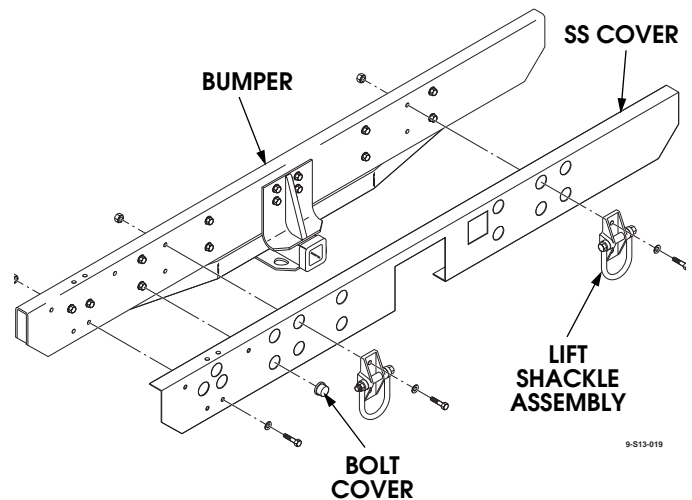

Figure 13-84: SS Rear Bumper Cover
1. Remove two bolts and the licence plate mount bracket (See Figure 13-84).